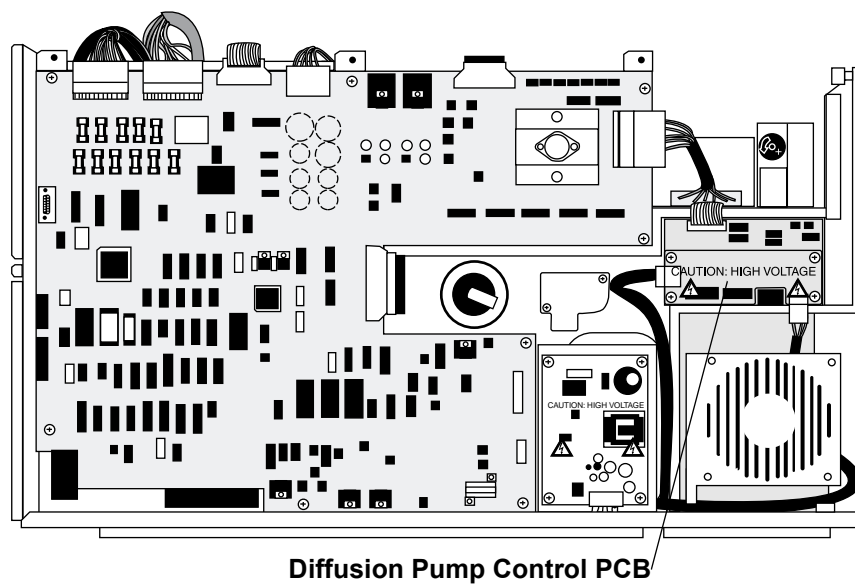

Figure 7-2. Left Side of GCQ Plus with Covers Removed, Showing Diffusion Pump Control PCB
4. Remove the cover to the Diffusion Pump Control PCB. Figure 7-2 shows the location of the Diffusion Pump Control PCB.